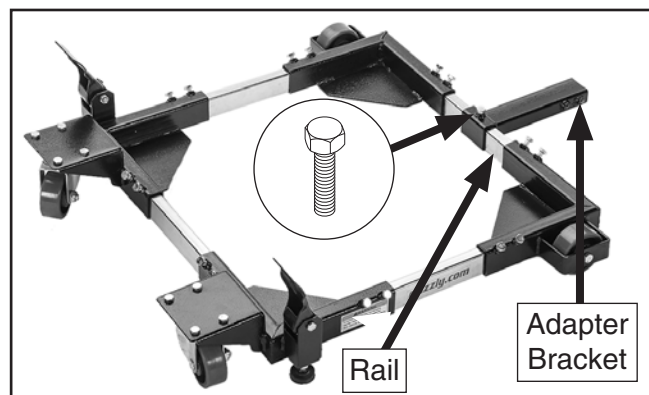

Figure 4. Adapter bracket attached to rail between fixed wheels.
2. Slide adapter bracket over rail between fixed wheels, then center and secure bracket with M8-1.25 x 16 hex bolt (see **Figure 4**).